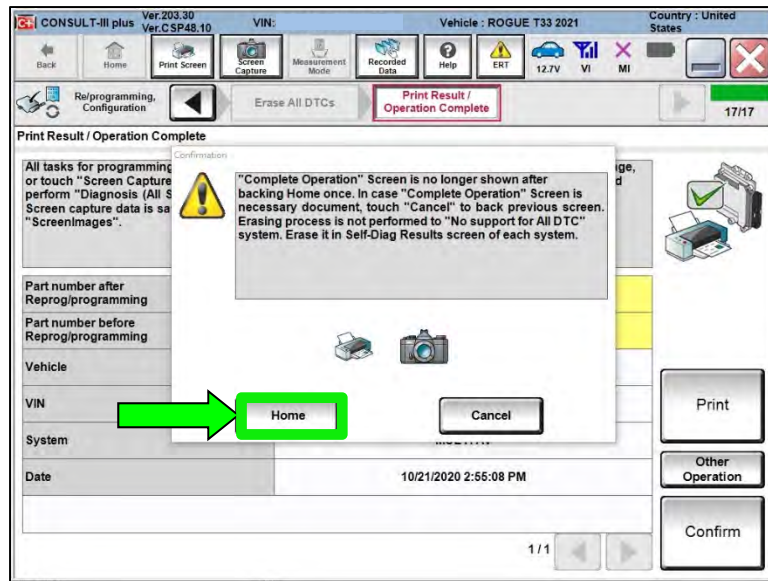

Figure 45
57. If the screen in Figure 45 displays, select **Home**. If the screen in Figure 45 does not display, skip to step 58.